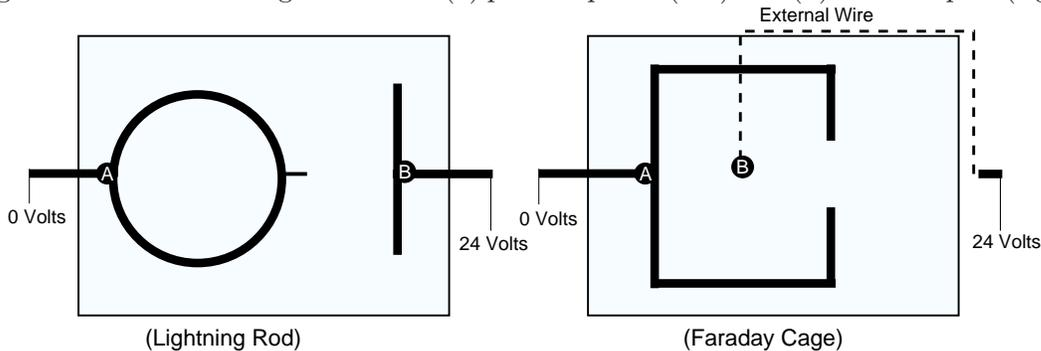

Figure 4: Two other electrode configurations, (a) lightning rod, (b) Faraday Cage.
3. Where in Fig. 4(a) do you expect the electric field strength to be strongest? Weakest? Why do experts recommend that if you are caught outside during a thunder shower and cannot obtain shelter that you find a low spot, and curl up your body, while standing on one foot if possible? Note: there are three effects here, two from shape and the other from size, arising from the fact that lightning is caused by excessive electric fields ($> 5000 \text{ V/cm}$), and that currents flow through the paths of least resistance.
4. For Fig. 4(b) do you expect there to be appreciable electric field strength outside the confines of the box? If using the web-version of the lab manual click below on the virtual Faraday Cage demo to study this configuration in more detail.